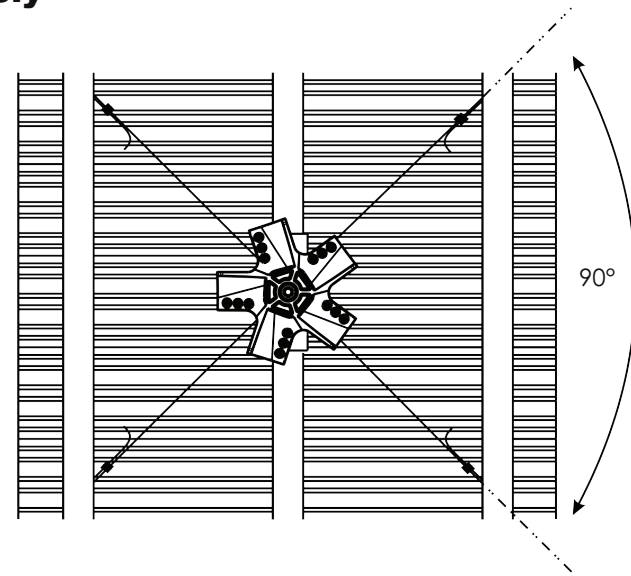

Fig.17
**Structural Note:** Guy cables must be installed or fastened to a structural component of the building at the angle shown in Fig.15 and Fig.17.
5. Guy wires should be taut but not over-stressed to allow free self-levelling. They should also be approx. 90° apart [Fig.17].